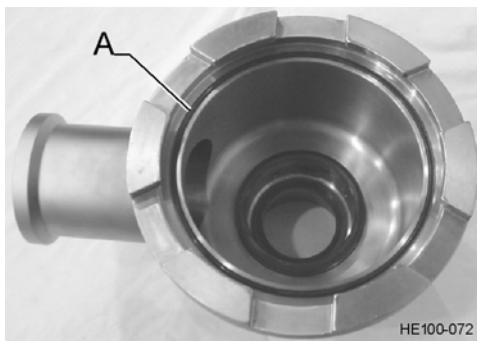

Figure 35 - Opposite Drive End Head O-ring
10. Make sure the o-ring (Figure 35, item A) is installed in the opposite drive end head. Lubricate it lightly